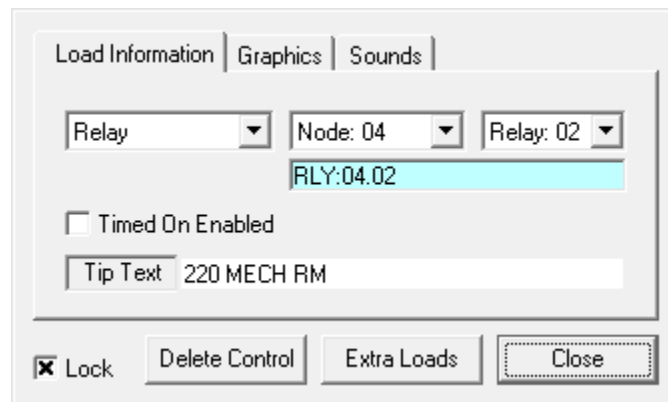

Figure 2.3
3. Right click on the load status icon to access its definition parameters as shown in figure 2.3.